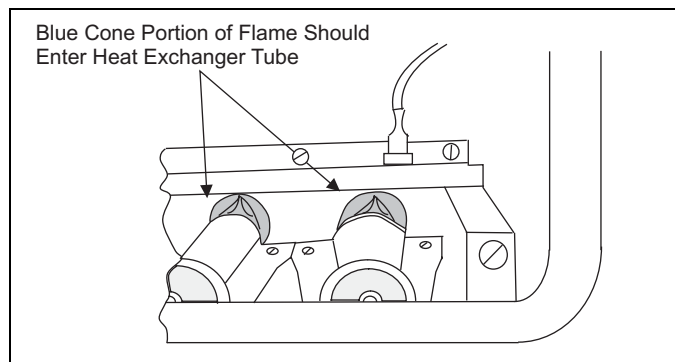

FIGURE 7: Burner Flame Drawing (Upflow Configuration Shown)
6. Examine the burner flames to make sure they are in good adjustment. Refer to the pictorial sketch shown in Figure 7 as a comparison to the actual flame.